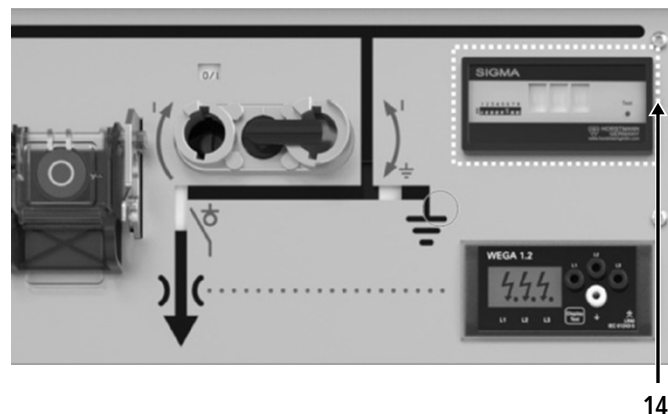

Figure 4-29: Overcurrent indicator
The overcurrent indicator (14), see figure 4-29 is activated by an overcurrent.